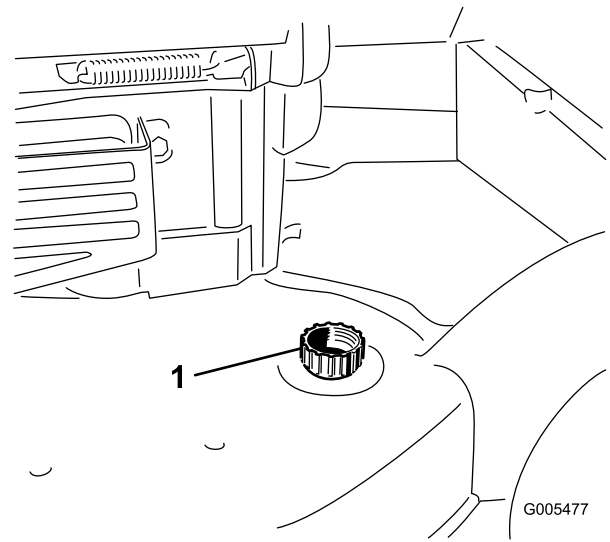

Figure 46
3. Attach a garden hose that is connected to a water supply to the washout port on the mower housing (Figure 46).